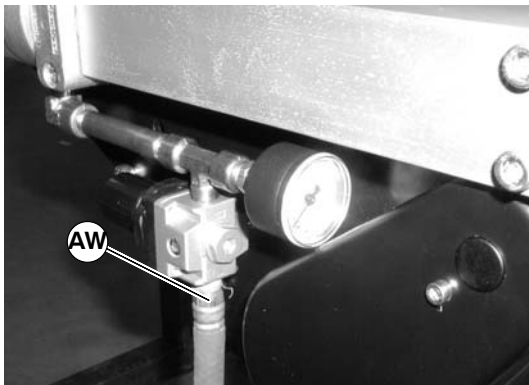

Figure 79
1. Remove air supply and remove hose (AW of Figure 79) from center drive.